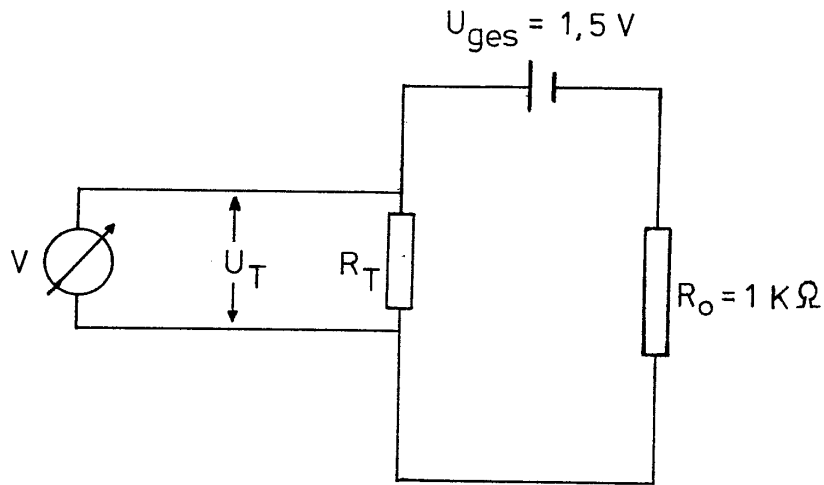

Fig. 3: Circuit diagram for temperature measurement with an NTC resistor
- 4) Repeat 2) & 3) accordingly for the temperature measurements with the semiconductor (see Fig. 3) and the platinum resistor (correspondingly).